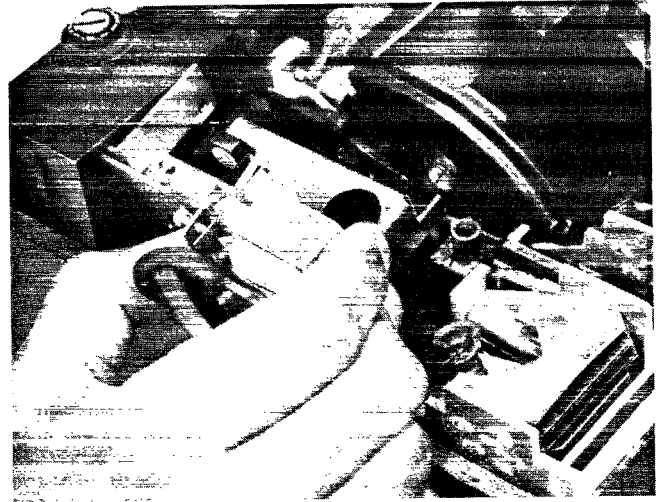
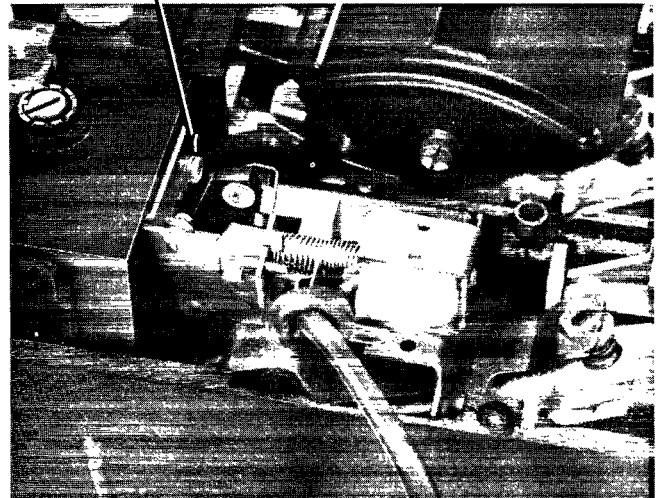

Figure 2
Figure 3
2. Seat the plunger in the coil and hold firmly. Rotate the circuit breaker handle forward and place the accessory into the right pole (Figure 2). Release the circuit breaker handle and the accessory. Secure the accessory to the trip unit with the 6-32 screw provided. (Figure 3)
5. Seat the plunger in the coil and hold in firmly. Rotate the circuit breaker handle forward and place the accessory into the right pole (Figure 2). Release the circuit breaker handle and the accessory. Secure the accessory to the circuit breaker trip unit with the 6-32 screw provided.